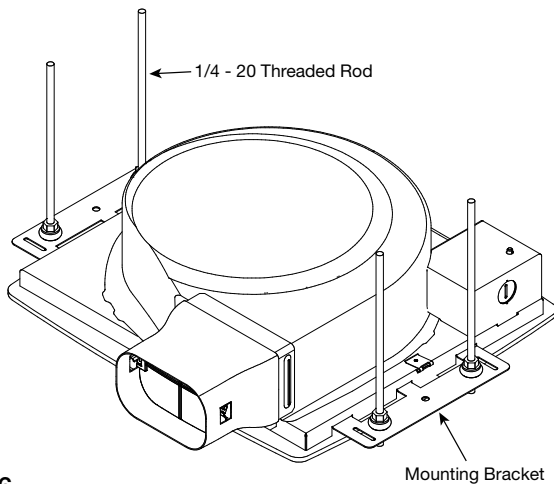

Figure 6
- Use Greenheck's optional vibration isolation kit. Using the fold down mounting brackets and 1/4-20 threaded rod (by others) to hang unit as shown in Figure 6.